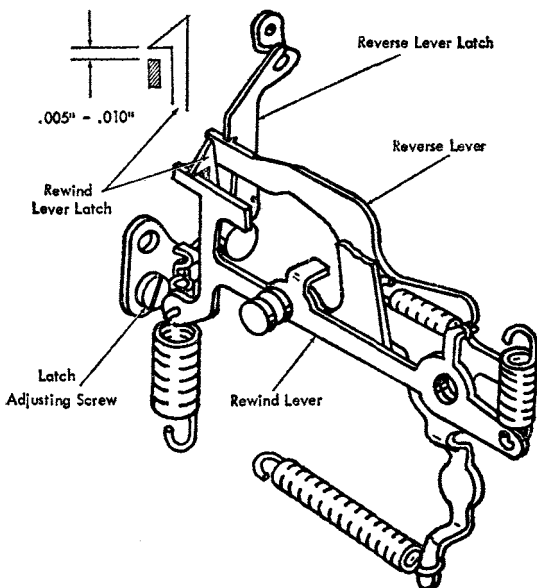

Figure 40. Rewind Lever Latch
10. REWIND LEVER LATCH. With the reverse lever latched down, position the rewind latch vertically by moving its mounting plate. There should be a clearance of .005" to .010" between the rewind lever and the rewind-lever latch (Figure 40).